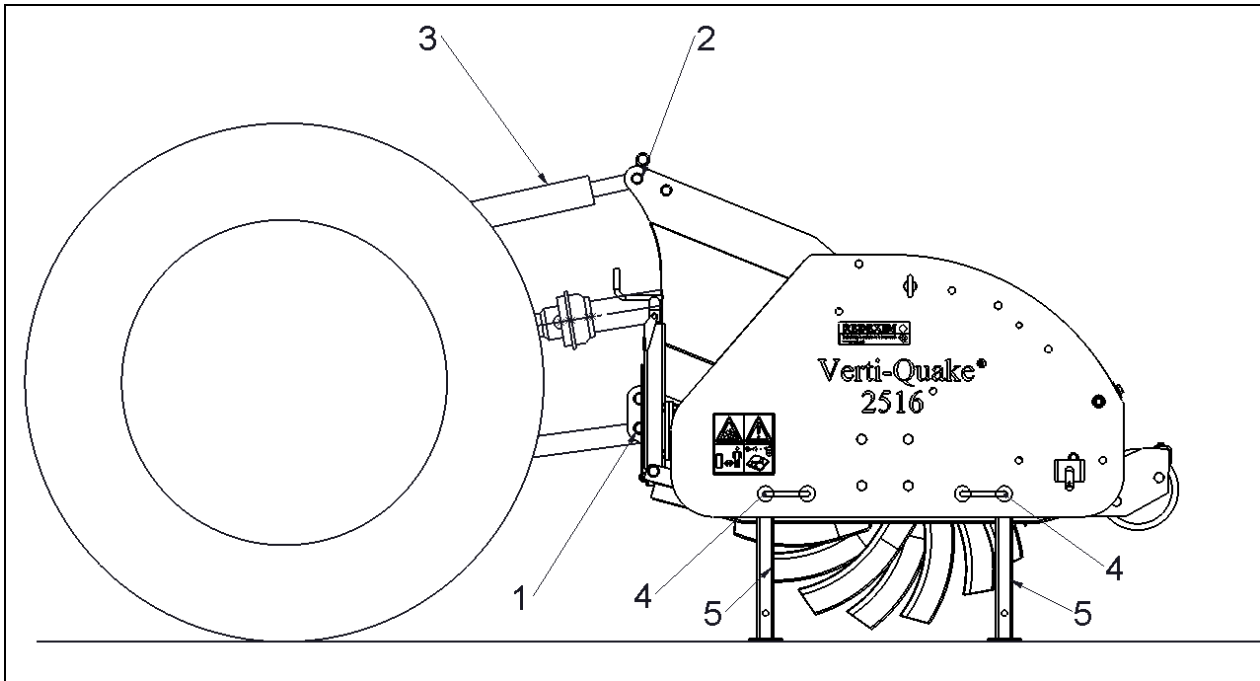

Fig. 10
5.0 CONNECTING TO THE TRACTOR (Fig. 10)
This is done as follows: (fig.10)